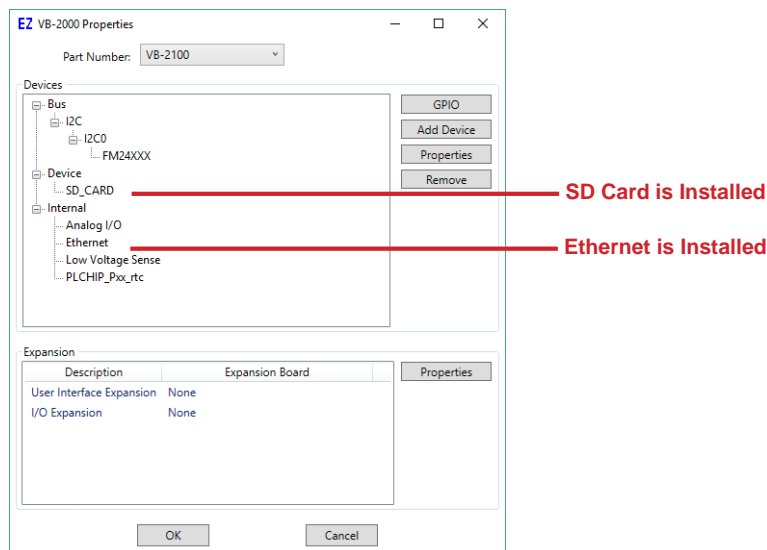

Figure 24-1
4. Verify the Wi-Fi or Ethernet device and the SD Card is already installed in the project. If not, install them before proceeding. See Figure 24-1. (Refer to the appropriate sections of this manual for details in installing Ethernet/Wi-Fi and SD Card).